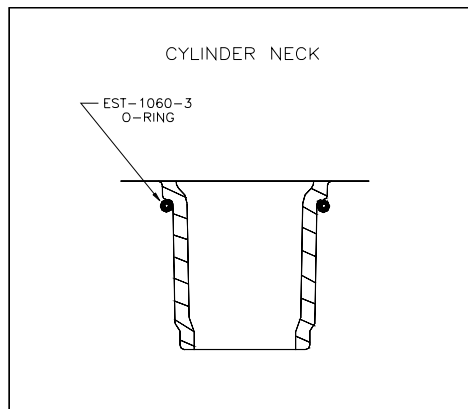

Figure 11A
4. Remove tank, clean out drain cup and insert with new tank. Be sure that "o" ring is in place on the cylinder fill/drain neck prior to installation (See Figure 11a). New "o" ring is included with each replacement cylinder.